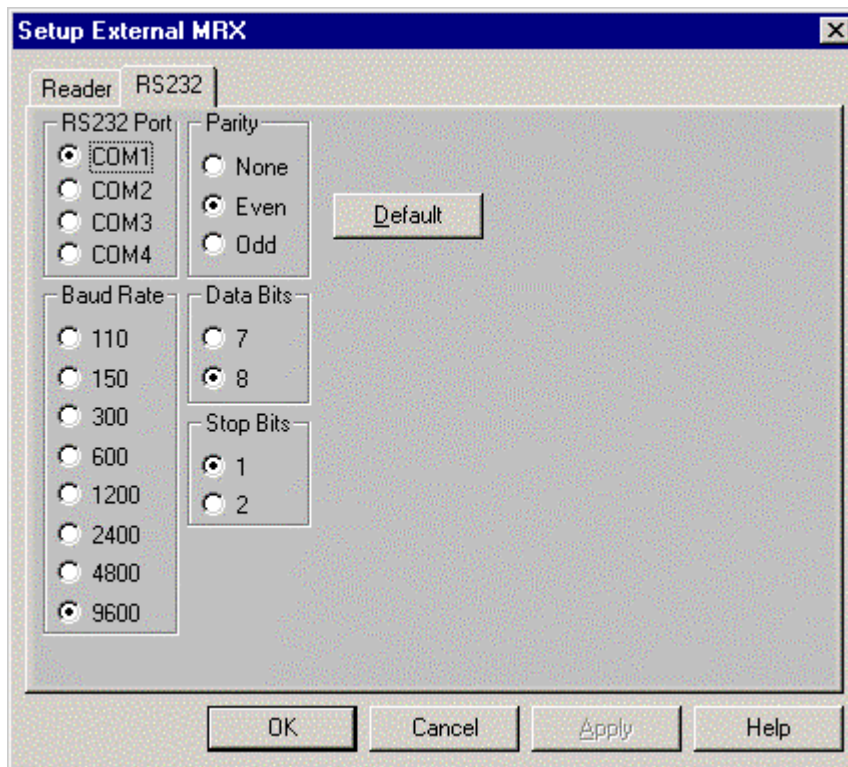

Figure A-7 Setup External MRX - RS232 Tab
- 8 Select the RS232 tab to present Communication Options (Figure A-7).